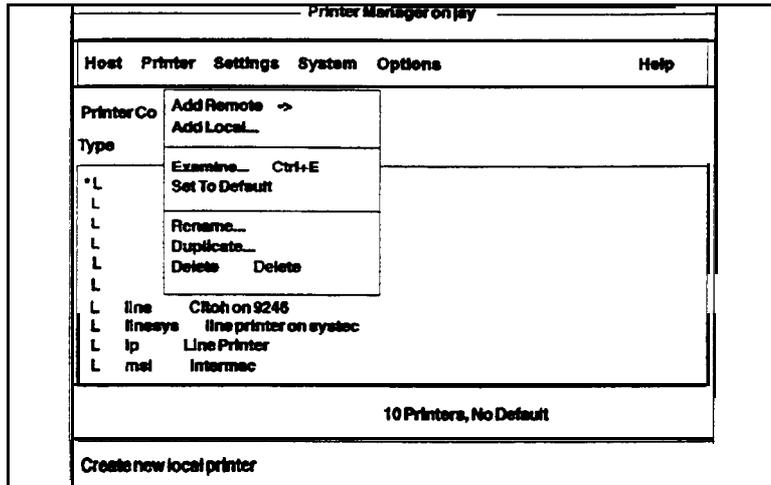
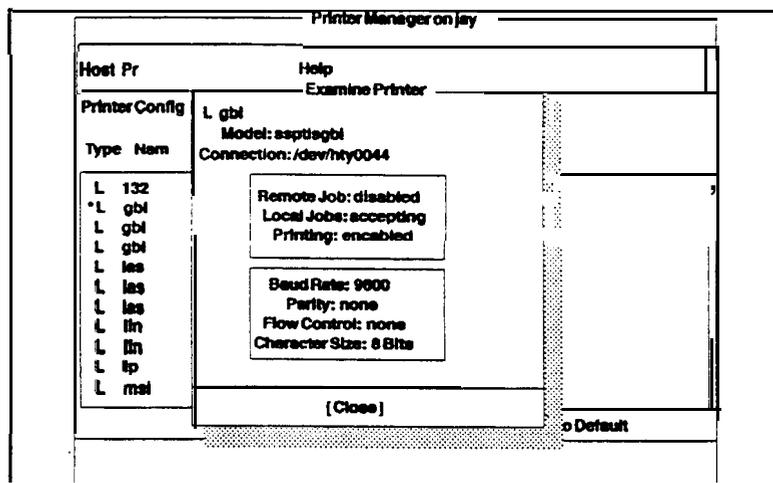

Figure 9-4. Printer Manager Window
Figure 9-6. Examine Printer Window
3. From the Printer Manager screen **select Printer** and press **RETURN**. From the new window (see Figure 9-4) press the **DOWN ARROW** and select **Add Local** and press **RETURN**.
2. From the pop-up window (see Figure 9-4) select **Examine** and press **RETURN**. The Examine Printer window (see Figure 9-6) gives the user information on printers installed on the operating system.